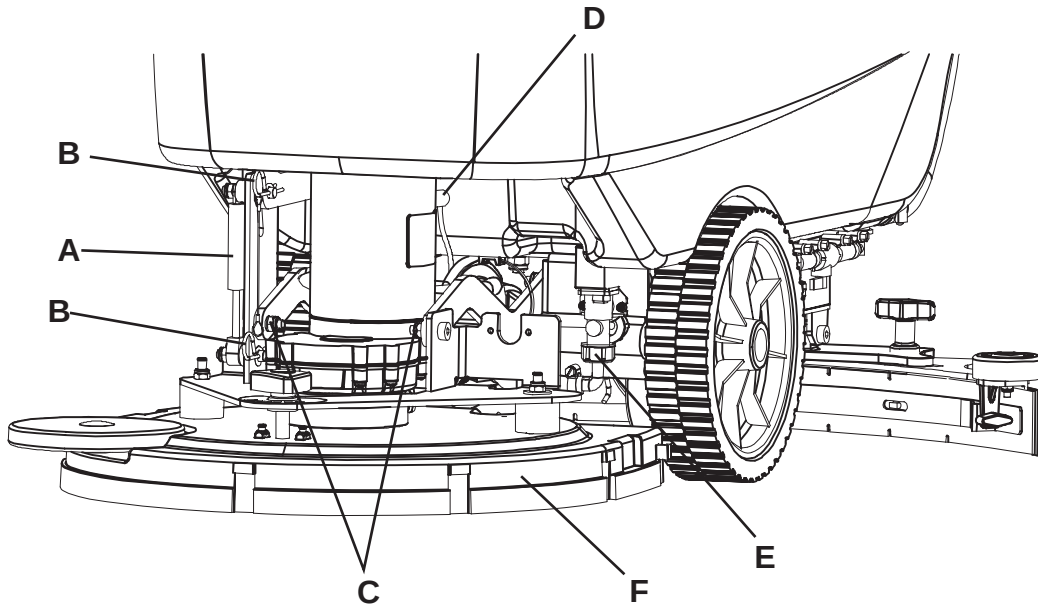

Figure 11
3. Lower the brush/pad-holder deck by pressing the pedal (11).
4. If equipped, remove the cotter pins (B, Fig. 11) and the gas spring (A).
5. Disconnect the brush/pad-holder motor electrical connection (D).
6. Disconnect the solution hose (E) from the solenoid valve (F).
7. Remove the screws (C), then remove the brush/pad-holder deck (F).